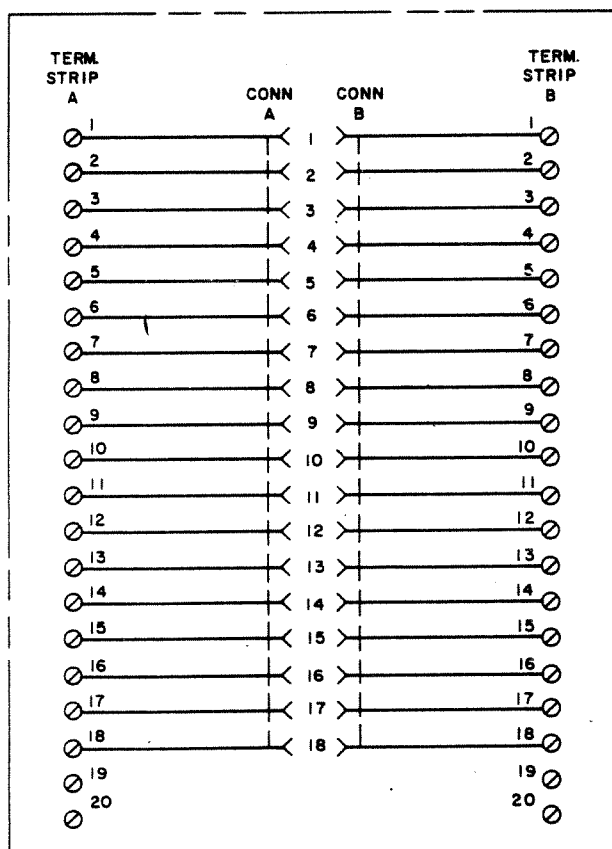

Fig. 2—259A KTU (MD) Schematic, Arrangement of Screw Terminals
(c) *Design Features:***.259A KTU (MD) Fig. 2**